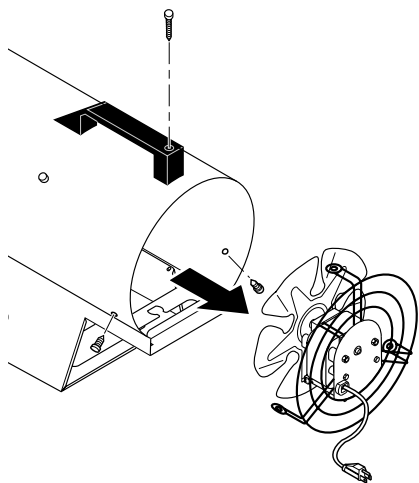

Figure 9 - Removing Motor and Fan Guard from Heater
2. Remove motor and fan guard from heater shell (see Figure 9).